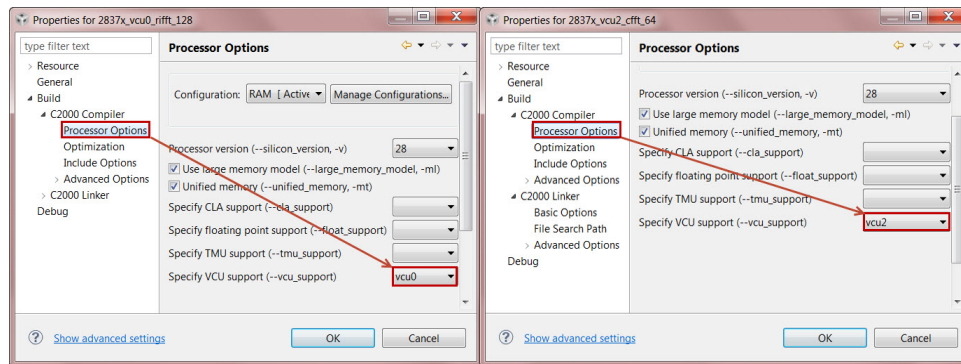

Figure 4.5: Turning on VCU support
2. Enable the **-vcu_support** option in the **Runtime Model Options** to either **vcu0** or **vcu2** depending on the library used (Fig. 4.5).